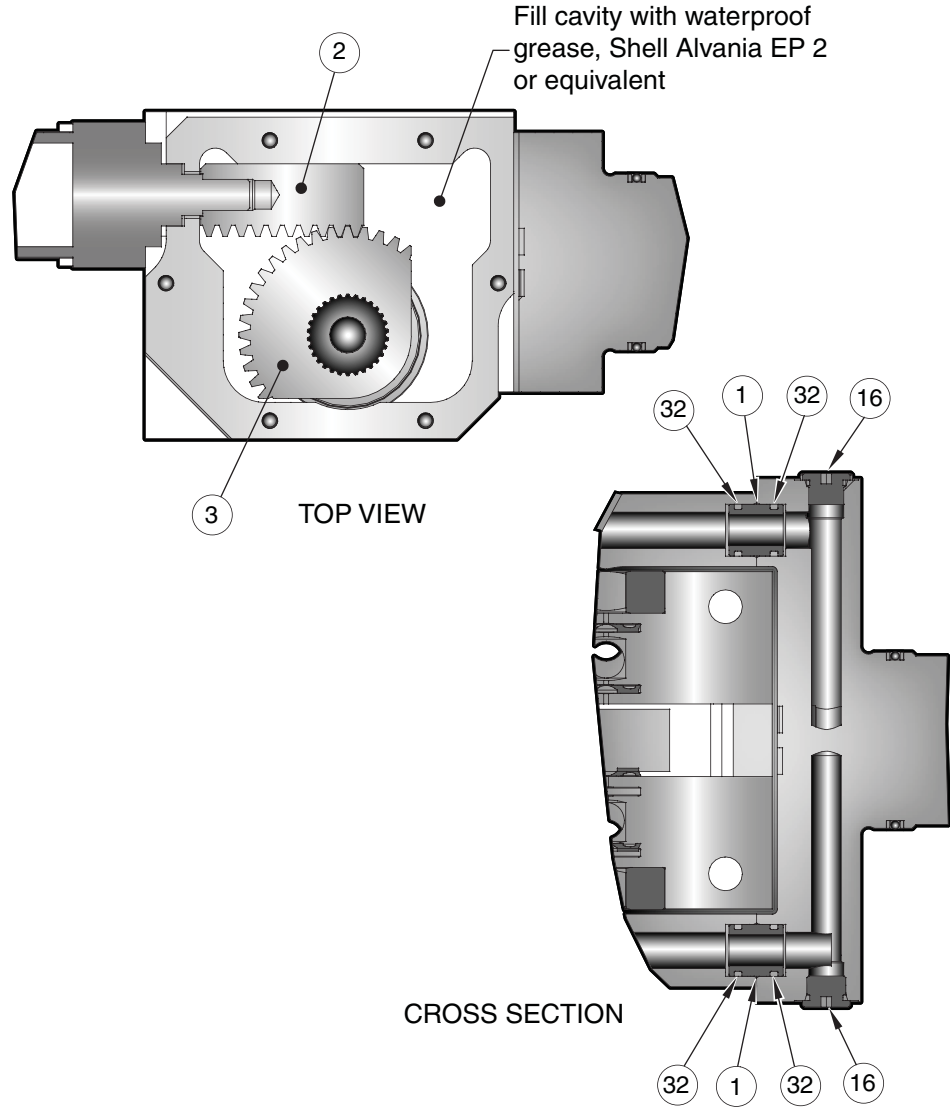
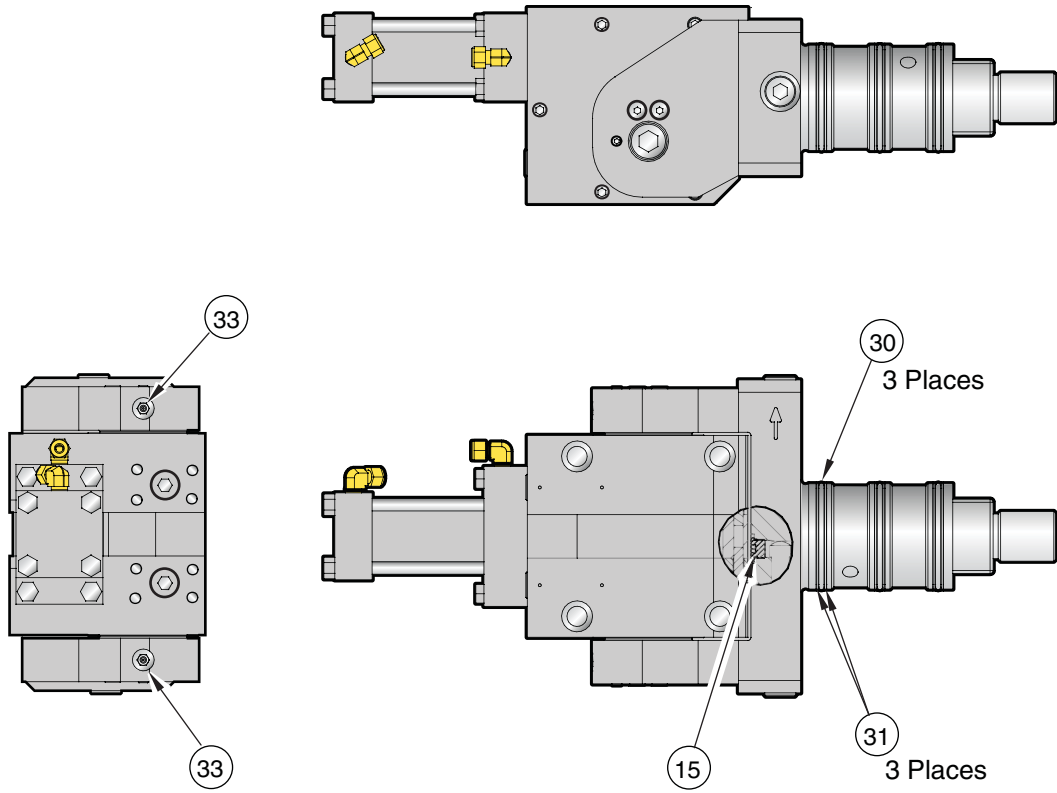
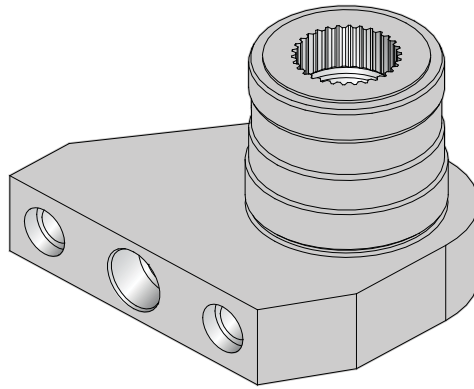
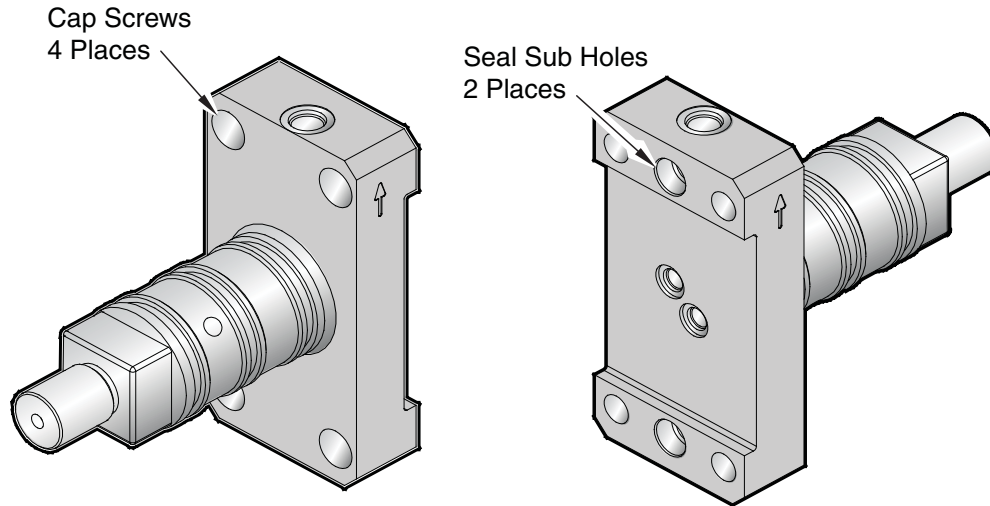

Figure 5-33. NXT Door System — Rotation Assembly — Section View
Figure 5-37. NXT Door Locking System – Rotation Assembly – Section View
Figure 5-39. Top or Bottom Hinge Ear
Figure 5-40. Hinge Tee Manifold
- 15. Taking care not to damage the hydraulic seal subs between the hinge tee manifold and upper and lower hinge ears, carefully remove the hinge tee manifold assembly and set aside (see Figure 5-33).
22. While supporting hinge rotation rack, unscrew the cylinder rod from the hinge rotation rack (see Figure 5-33 on page 5-45).
6. Install the bottom hinge ear into the bottom hinge cover, and then orient the bottom hinge ear as shown in Figure 5-37 on page 5-52 and Figure 5-33 on page 5-45.
13. Install the hinge sector gear over the hinge drive shaft taking care to mate it with hinge rotation rack gear teeth while also maintaining bottom hinge ear orientation as shown in Figure 5-37 on page 5-52 and Figure 5-33 on page 5-45.
16. Install the top hinge ear into the top hinge cover and mate the internal spline (see Figure 5-39) with the hinge drive shaft while maintaining top hinge ear orientation as shown in Figure 5-37 on page 5-52 and Figure 5-33 on page 5-45.
20. Maintaining correct **Arrow** orientation from previous step, install seal sub (with new O-ring) into mating holes in the hinge tee manifold that will align with mating seal sub holes in top and bottom hinge covers (see Figure 5-33 on page 5-45 and Figure 5-40).